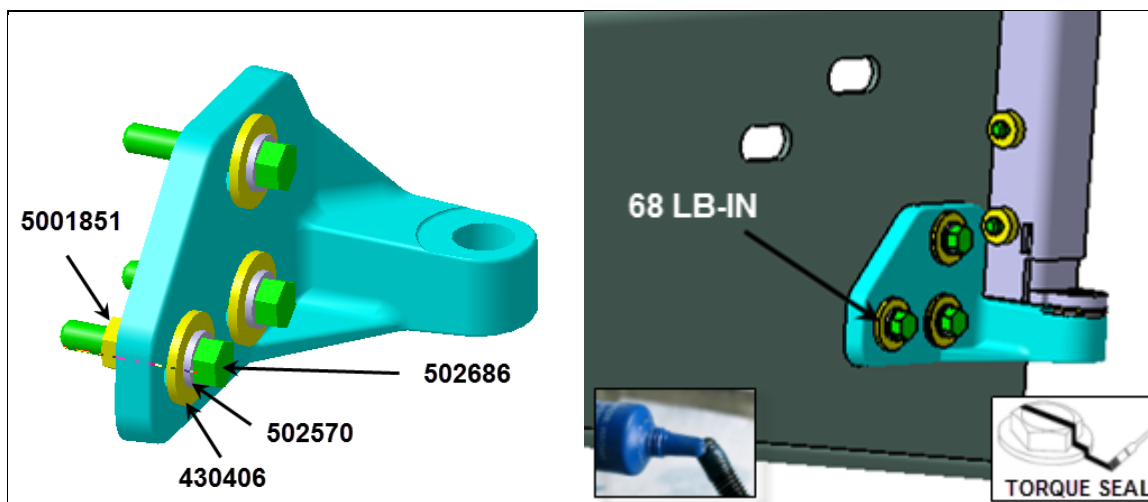

FIG.20 LOWER HINGE BOLT INSTALLATION & TIGHTENING TORQUE
9. Install the supplied bolt **502686**, nut **500851**, washer **430406** and lock washer **502570** in the previously drilled hole, Apply medium strength threadlocker and torque to **68 lb-in**. Apply a stripe of tamper proof indicator paint (torque seal) to the bolt head (Fig.20).